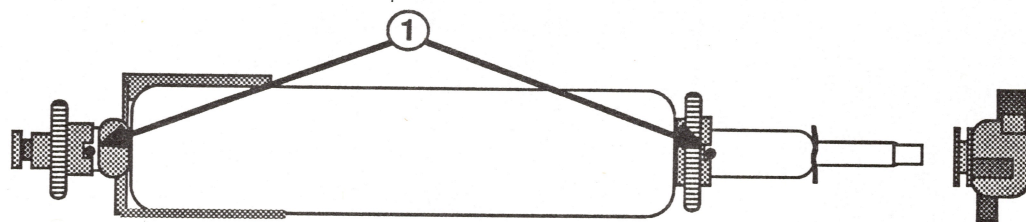

FIGURE 35
13. Locate the two pins on the platen (see Figure 35, #1).